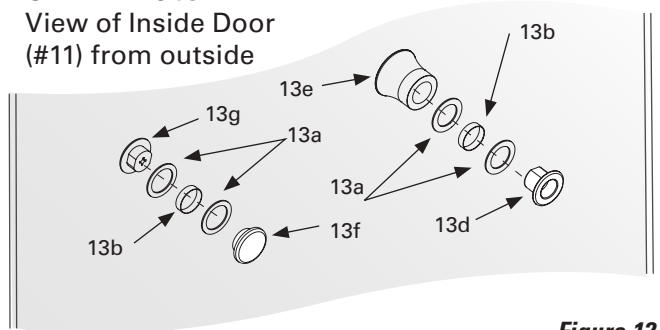

Figure 12
D. Locate the Knob and Recessed Finger Pull. Refer to **Figure 12** to help identify the parts.